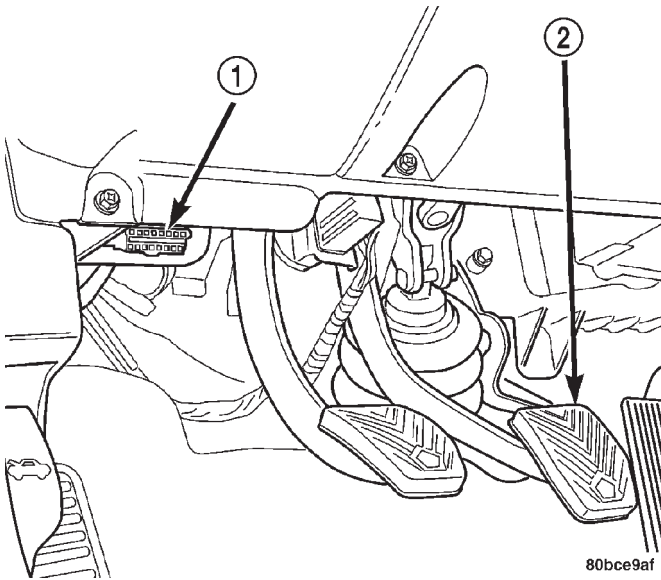

Fig. 4 Data Link Connector (DLC) Location
- (1) Hook up the DRB III® scan tool to the Data Link Connector (DLC) (Fig. 4).
- (2) With the key in the ignition, turn the key to the RUN position.
- (3) After the DRB III® scan tool initialization, perform the following:
- (4) Once in the "Miscellaneous" screen: